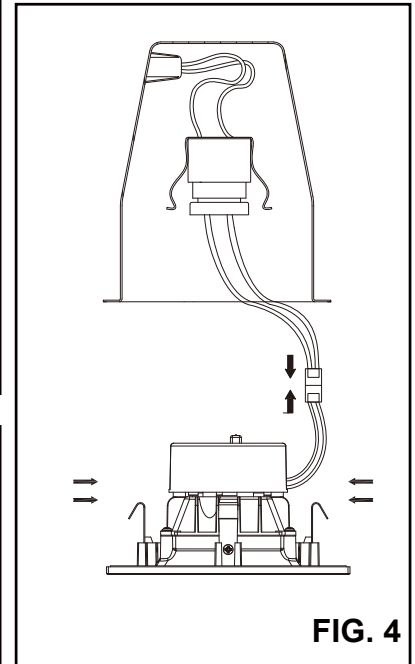

FIG. 4
5. Tuck all wires into the CAN and adjust the horizontal angle as requirement, carefully push the RETROFIT TRIM into CAN (FIG.4).